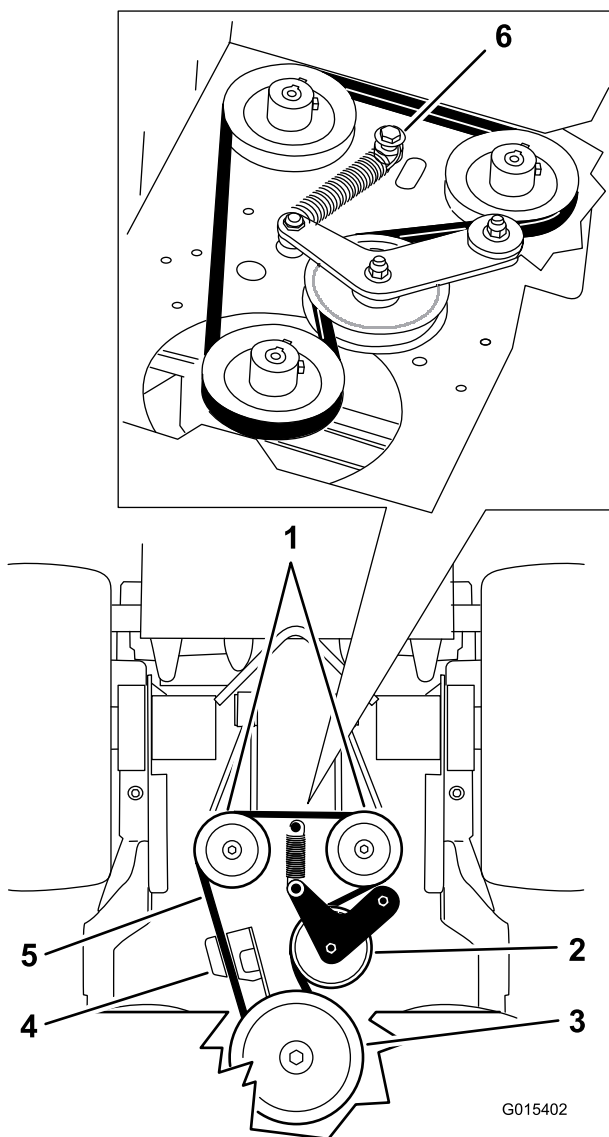

Figure 74
5. Remove the shoulder bolt, nut, and washer from the engine deck and connected to the spring (Figure 74).
6. Remove the pump drive belt (Figure 74).
8. Install the spring onto the shoulder bolt and washer and connect it to the engine deck with the nut (Figure 74).